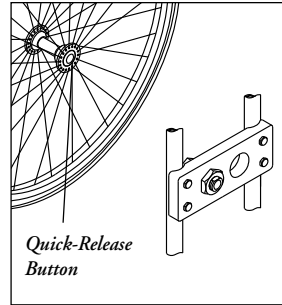

Figure 3
- a. Depress the quick-release button on the axle.(Fig. 3)